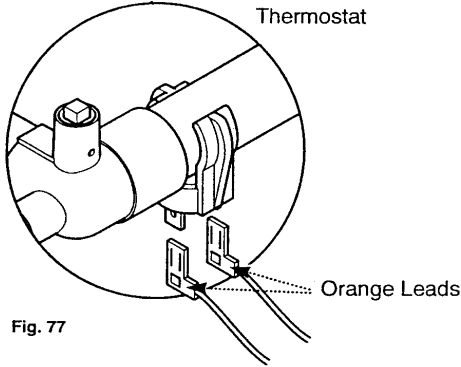

Fig. 77
7. Connect the two electrical tags from the wiring harness to the terminals on the overheat thermostat (Fig.77) - either wire can be connected onto either terminal - there is no polarity.